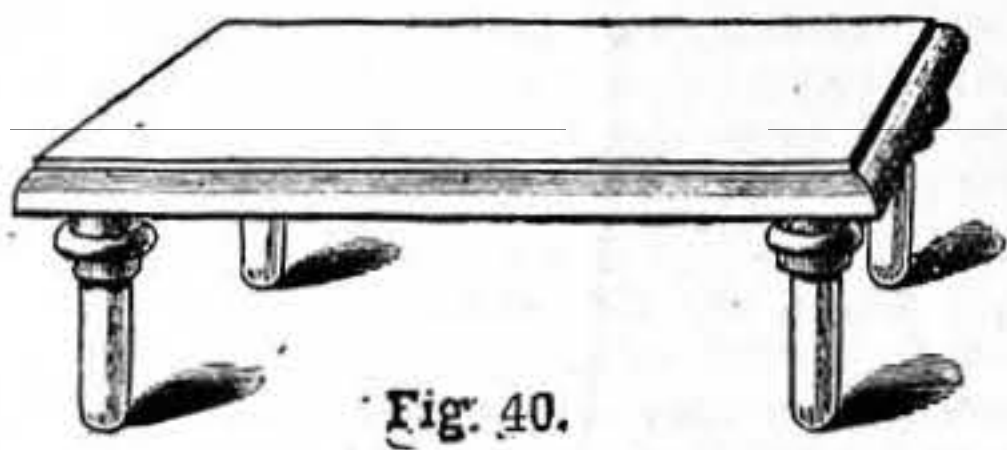

Fig. 40.
*The Insulating Stool*, illustrated in Fig. 40, will be found a very useful accessory for use when it becomes necessary to insulate any large conducting body. For the table top of the stool prepare a board of sound dry mahogany, to measure about 12 in. by 10 in., and 1 in. or 1½ in. thick. It will be found to add greatly to the appearance of the stool if the edges of the board are moulded by means of a moulding plane. Exact measurements are not important, but the above size of top will be found very convenient for all ordinary purposes. When the top has been prepared, four wooden sockets will be required to receive the glass supporting legs, each of them measuring outside about 2 in. in diameter and 1½ in. thick, with an internal diameter of ¾ in. As soon as the sockets are ready, they should be glued and secured to the under-side of the top, after which a 6 in. length of ¾ in. glass rod may be cemented into each one by means of electrical cement or a mixture of plaster of Paris and glue. Before cementing the glass rods into the sockets, it will be necessary to round off the lower ends of each one on a grindstone, afterwards levelling the stool carefully, and lastly polishing or varnishing the woodwork.